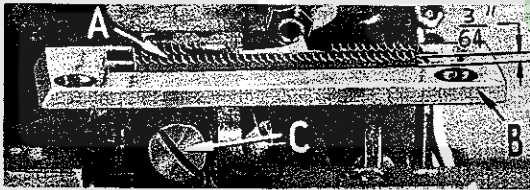
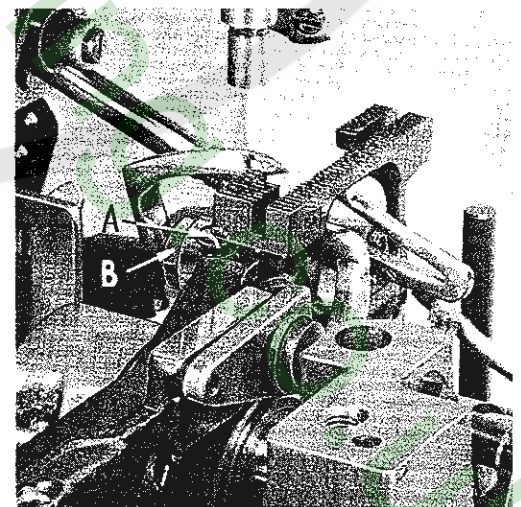

Fig. 7
Fig. 8
Set the feed dog (A, Fig. 7) in the throat plate (B) so there is equal clearance on all sides and that the tips of the teeth are parallel with and project $\frac{3}{64}$ inch above the throat plate at high point of travel. Adjust the supporting screw (A, Fig. 8) under the feed dog to maintain this setting. Screw (C, Fig. 7) is used to
If feed dog teeth are not parallel with the throat plate, loosen nut (B, Fig. 8) and turn screw (A, Fig. 9) clockwise to lower the front teeth, and counterclockwise to raise the front teeth. Retighten nut when feed dog is set properly.